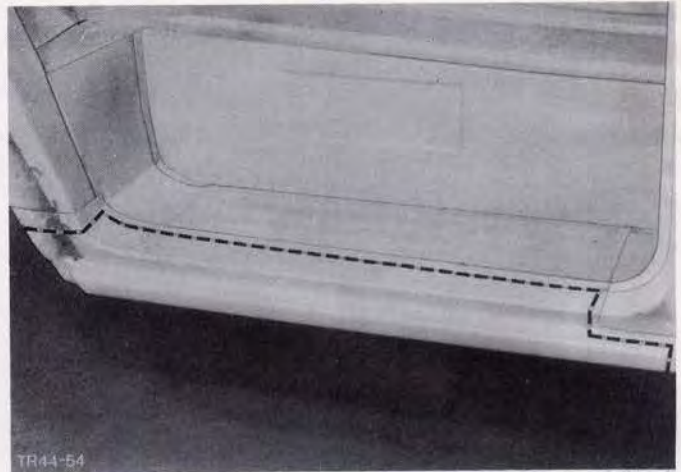

Fig.192. Door sill cut line.
1. Mark out door sill cut line, Fig.192.